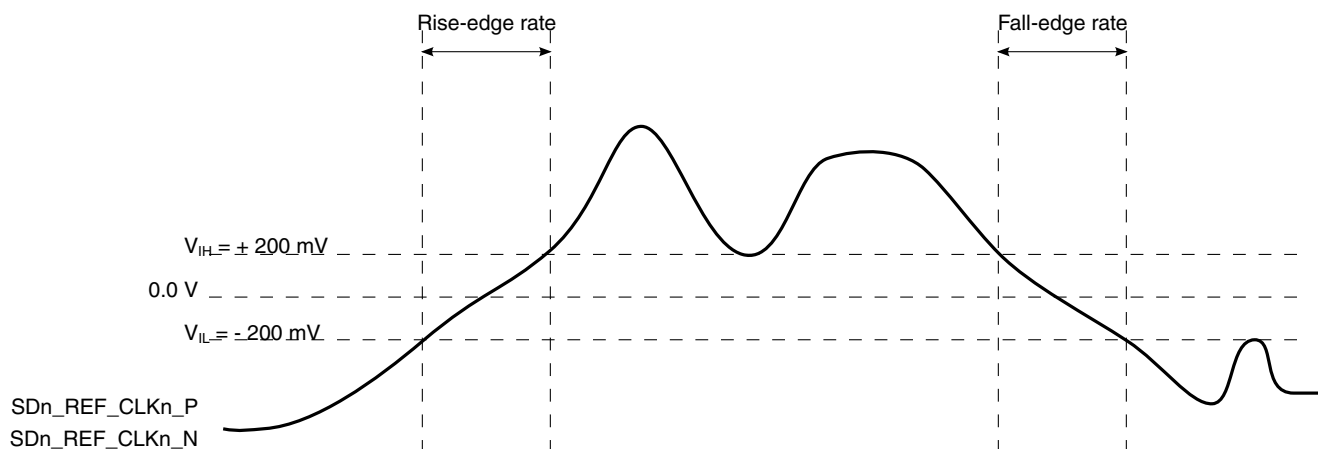

Figure 36. Differential measurement points for rise and fall time
- Measured from -200 mV to +200 mV on the differential waveform (derived from SDn_REF_CLKn_P minus SDn_REF_CLKn_N). The signal must be monotonic through the measurement region for rise and fall time. The 400 mV measurement window is centered on the differential zero crossing. See Figure 36.